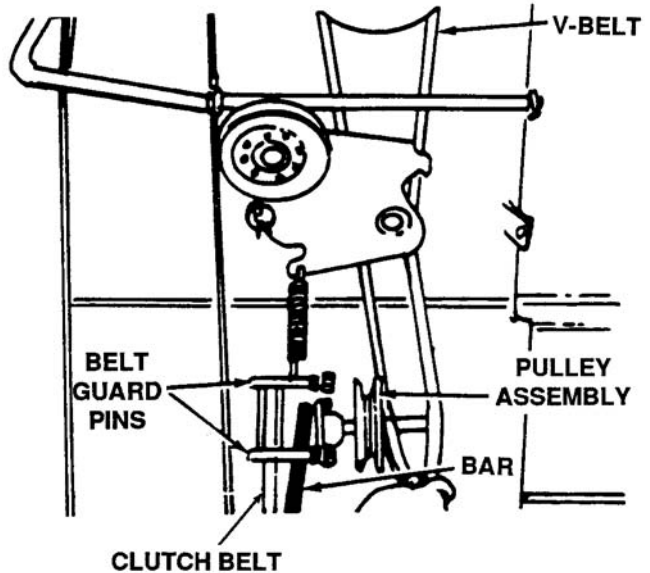

Figure 4-61. Removing Belt From Pulley Assembly
5. Using a bar or large screwdriver, pry the pulley assembly towards the front of the tractor and unhook the belt from the pulley. See Figure 4-61.